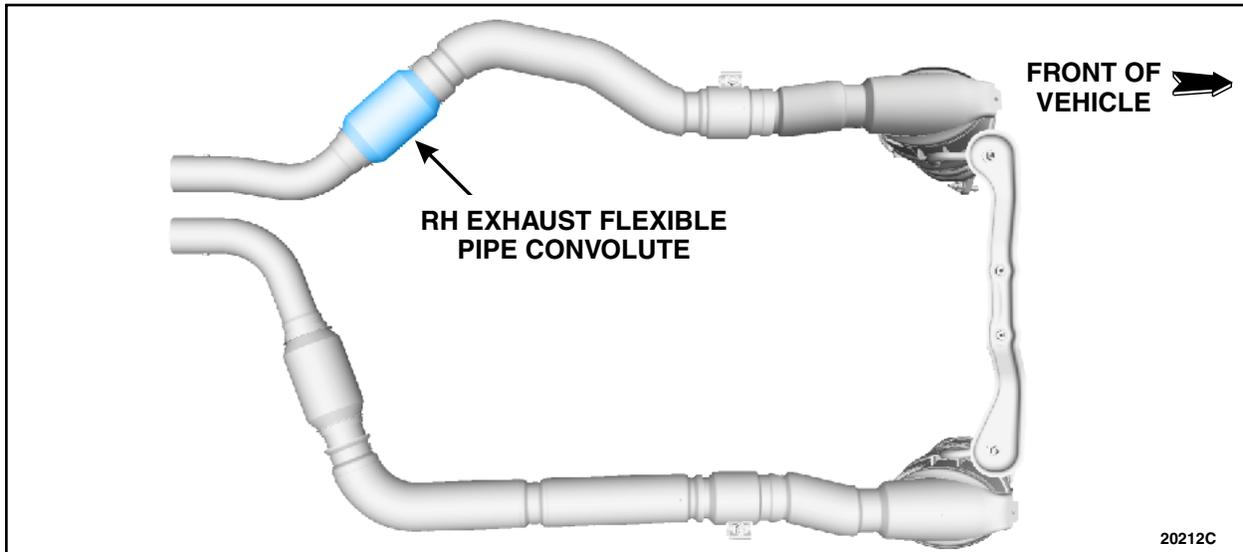

FIGURE 5
3. Inspect the RH exhaust flexible pipe convolute for cracks or leaks. Were any cracks or leaks found at the RH exhaust flexible pipe convolute? See Figures 5 and 6.